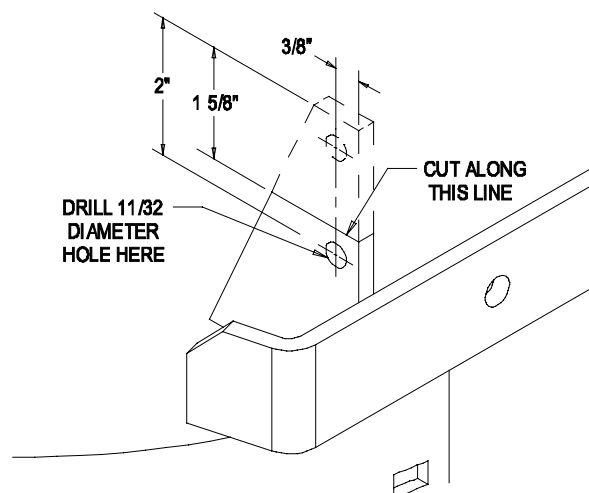

FIGURE 4
For 48" decks with Serial Nos. 203376 and lower: Verify that the unit has discharge chute tabs that measure 4" high from the top of the deck plate before continuing with Step 4. See Fig 4.
13. Locate and drill a new hole for the chute tabs 2" down from the top and 3/8" from the outside of the tabs. See Figure 4.
14. Cut off the chute tabs 1 5/8" down from the top. See Figure 4.